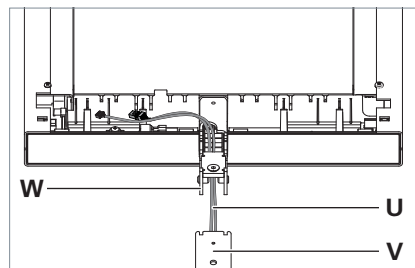

Fig. 10: Mounting the luminaire head on the support tube.
- ▶ Guide the cables **U** from below through the support arm **W** on the luminaire head and insert the support arm completely into the support tube **V**, see Fig. 10.